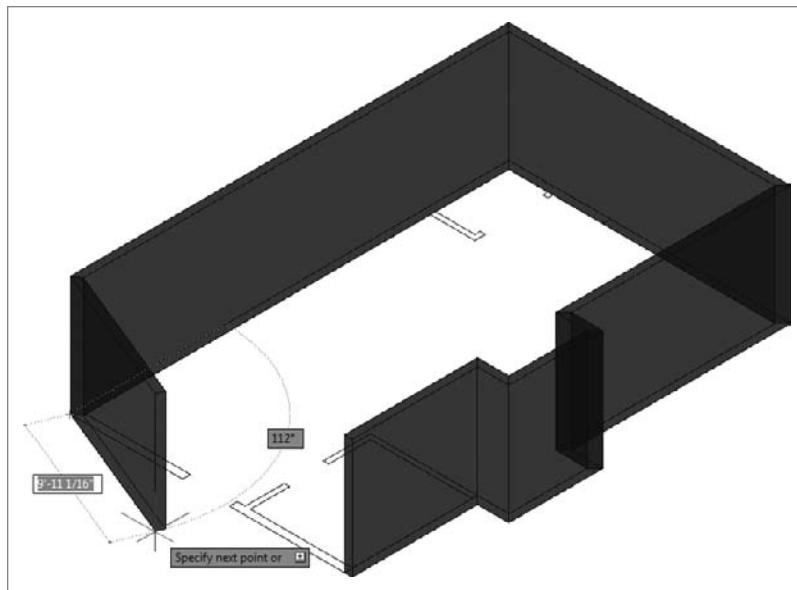

FIGURE 16.11 The exterior walls drawn with polysolids
7. Moving in the counterclockwise direction, click each of the endpoints along the outside perimeter of the cabin until only one segment separates the last segment from the first. Your drawing should look like Figure 16.11.